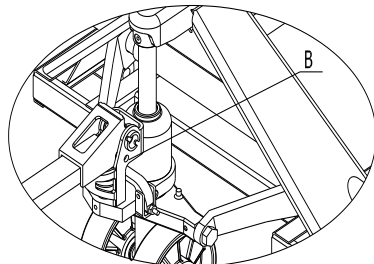

Fig.3
- 3.6 Refer to Fig.3, raise handle 8 to a horizontal position, pull out pin B and keep it appropriately to be used for Handle replacement next time. The assembling is completed.